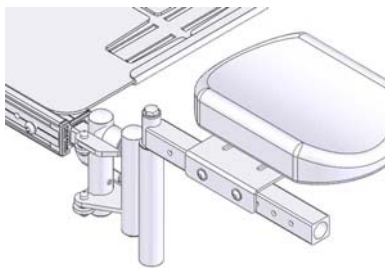

Figure 5-9
5.3.1.3.1 Stump footrest is shown as Figure 5-9